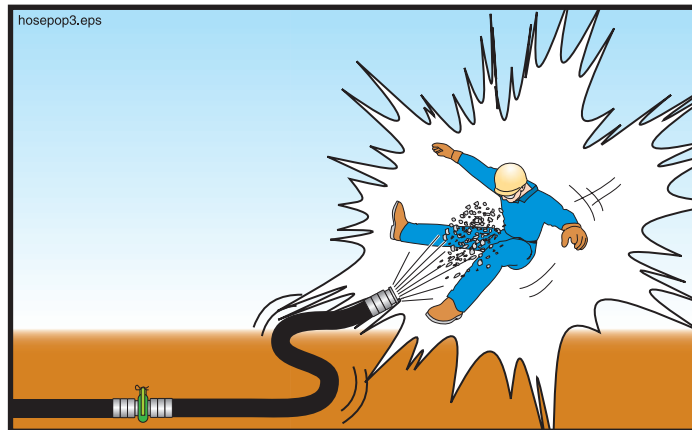

Figure 60
- Do not use compressed air to blow out concrete delivery hose, single pipe sections and short pipelines up to a length of 40 feet. Hoses will jump and move unpredictably; short pipelines don't have enough concrete to resist the force of the air, causing it to discharge too quickly, like a cannon (Figure 60).